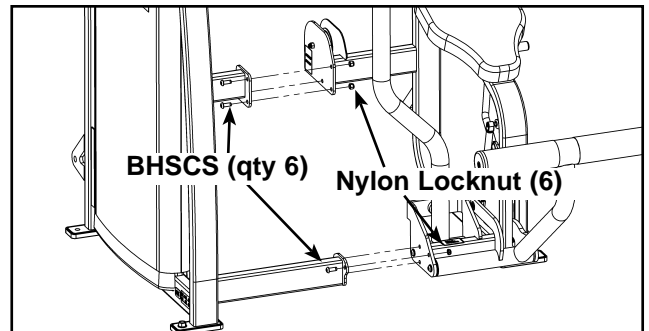

Figure 4
- I. With an assistant, carefully remove the six BHSCS securing the two halves of the frame. See Figure 4.
- K. With an assistant, carefully attach each half together using the six BHSCS removed in step 4I. See Figure 4.